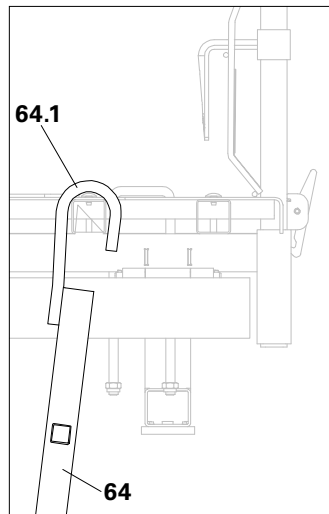

Fig. A13.16
1. Adjust the ladder (64) to the required length and secure using a linch pin.
- (Fig. A13.16)